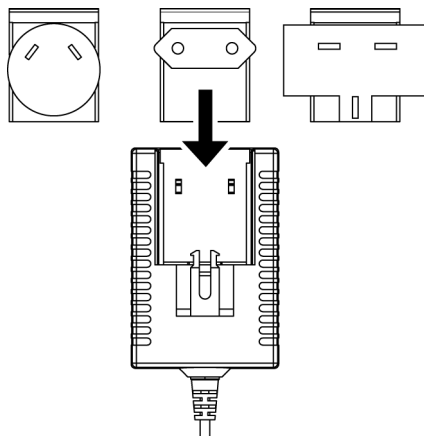

Fig. 6 PS4 Universal AC/DC Power Supply
- Squeeze both sides of the PS4 latch lock (see Fig. 6).